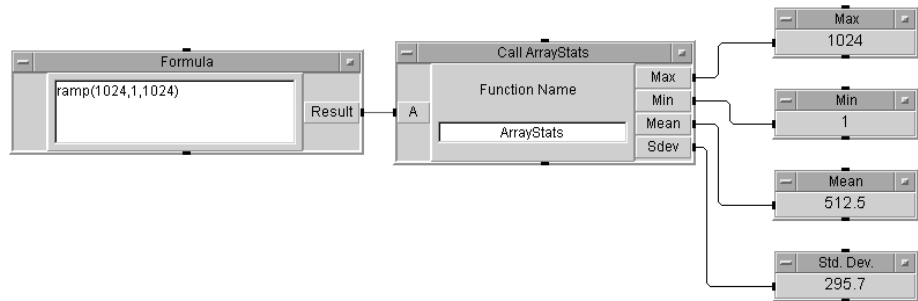

Figure 183 Calling the User Function ArrayStats
- 6 Run the program. It should look like Figure 183. Save the program as **array_stats.vee**.